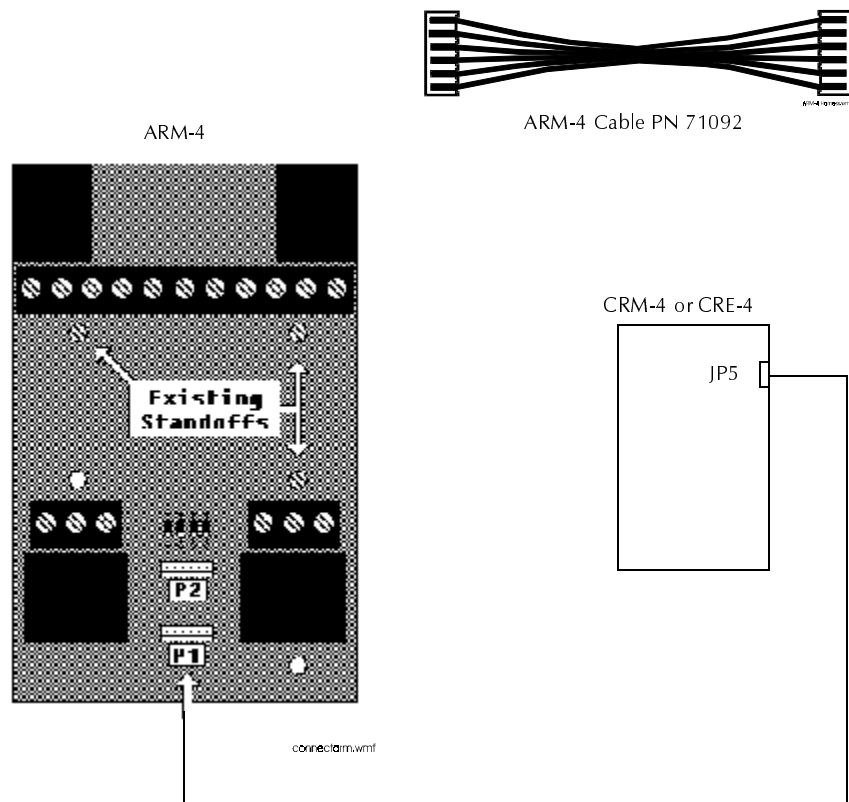

Figure 2-15 Connecting the ARM-4 to a CRM-4/CRE-4
1. Connect one end of the ARM-4 cable to plug P1 on the ARM-4 (Figure 2-15).
2. Connect the other end of the ARM-4 cable to jumper JP5 on the CRM-4 or CRE-4 driving the ARM-4 module (Figure 2-15):